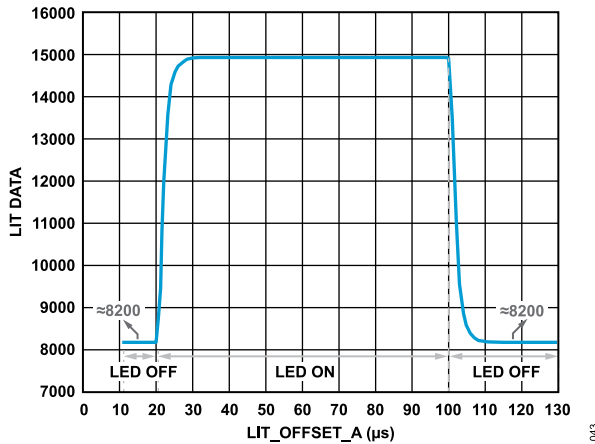

Figure 47. Timing of OSRAM FIREFLY CT DBLP31.12 (Green LED)
5. Plot the mean value of the lit data and LIT\_OFFSET\_A. The response time of the optical device (for example, OSRAM FIREFLY® CT DBLP31.12) is shown in Figure 47.